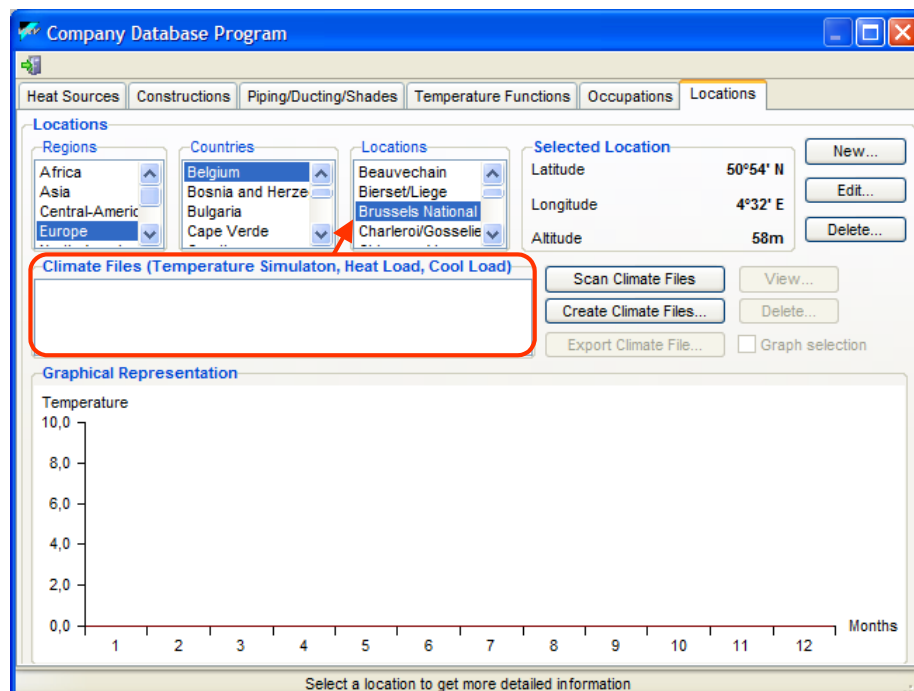
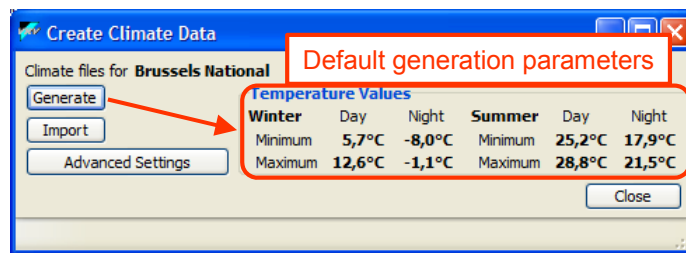

Figure 150: Climate files are associated to a location
Figure 151: Default generation parameters associated to a location
Climate files are referred to in the company database and associated to a location. Locations are organized in regions (continents), countries and locations (see Figure 150):
When you start a new VRVPro project and select the default company database (see section 2.1) The default company database does not contain references to climate files. However, you may have created climate files in previous projects. To load these in the new project, click the "**Scan Climate Files**" command button (see Figure 150). VRVPro will then scan the "**Climates**" subfolder and store references to all climate files it finds in that subfolder.
However, for that new project you may need climate files for a different location, for which there are no climate files available. In that case, you must create them, by clicking the "**Create Climate Files**" command button (see Figure 150). This brings up a window as shown in Figure 151:
1. Generating a temperature simulation file. To generate climate data for a whole year, VRVPro uses 8 extreme temperature data, together with other data such as humidity and clouding, not shown in the simple window of Figure 151. After have produced the 8760 records, VRVPro saves the results in the temperature simulation file.
Instead of using the defaults to create the climate files, you can also click the "**Advanced Settings**" command button in Figure 151 to display a window as shown in Figure 153. This window allows you editing the extreme ambient temperature data, but also the humidity and clouding. In addition, you can also define rain seasons (e.g. a monsoon period), during which the humidity and clouding gets an extra boost.